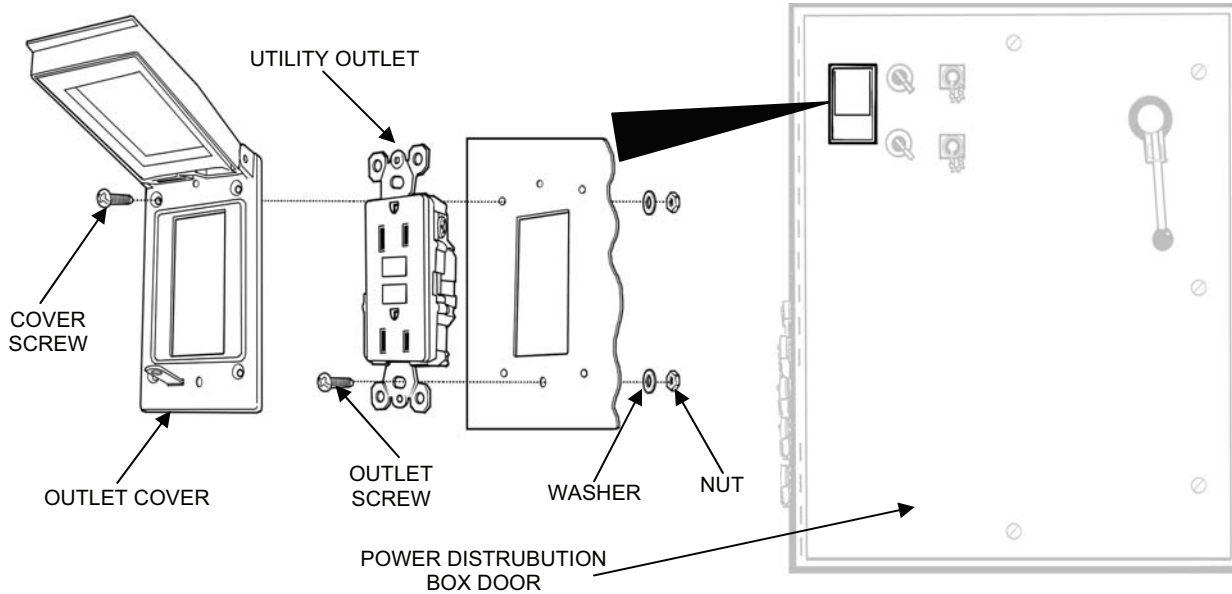

Figure 15. Utility Outlet Assembly Replacement.
1. Remove the utility outlet from the power distribution box door as follows (see Figure 15):